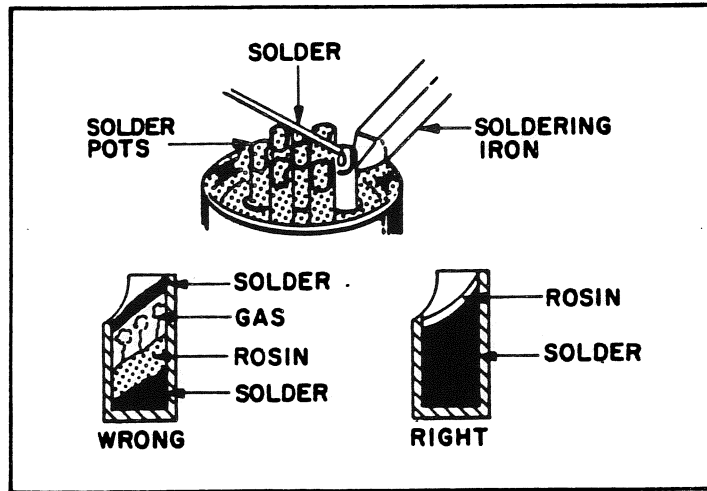

Figure 9-9. Preparation for Soldering on Connectors
The major cause of failure in connectors is poorly soldered wires. Special care should be taken to fill the solder pots of connectors and to prevent the rosin flux from sinking to the bottom and taking up space that should be filled with solder. A poorly filled solder pot is subject to cracking under vibration. The wire may come loose, resulting in a poor electrical connection which might ultimately result in the failure of a whole unit. To obtain a correctly filled solder pot, solder must be fed slowly. See Figure 9-9 for correct method of preparing connector for soldering.
5. Place the iron tip on the back of the pot. When the solder melts and bubbles; insert the conductor into the pot until it is bottomed. If necessary, apply a small amount of solder to the joint (see Figure 9-9).